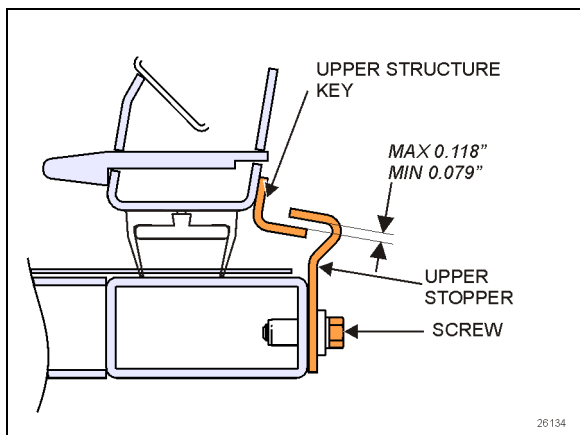

FIGURE 27: UPPER INNER STOPPERS ADJUSTMENT
1. Adjust the upper structure key and the inner stoppers according to Figure 27 with the seal deflated. When inflating, the seal